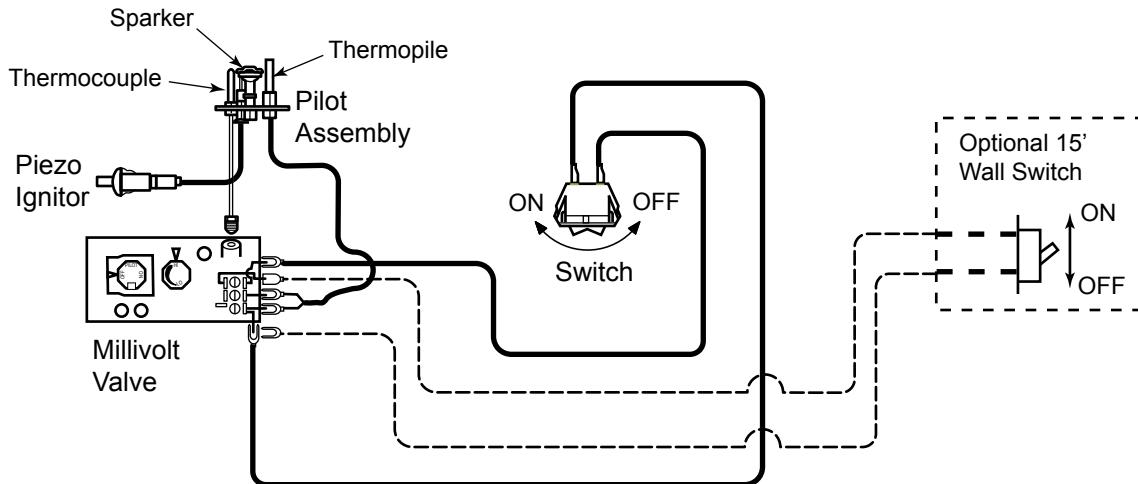

Figure 43 -
A remote wall switch and up to fifteen (15) feet of 18 Ga. wire may be used with this appliance. Attach the wall switch in a junction box at the desired location on the wall. *Figure 43.* Do not extend beyond the wall switch wire length provided.
3. Connect the wire terminal from the remote receiver. *Figure 43*